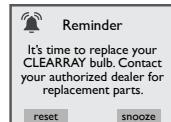

Figure 15.0c
22. **CLEARRAY Replacement Reminder:** This message will appear when the CLEARRAY bulb reminder time has expired (Figure 15.0c). The CLEARRAY bulb must be replaced.